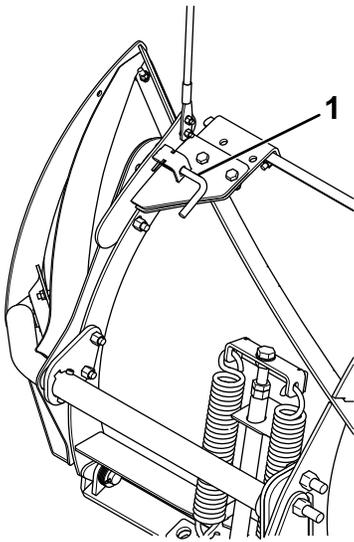

**Figure 9**
14. Slide the plow wing tube through the rib brackets until the attach pin passes through the outer bracket (Figure 9).